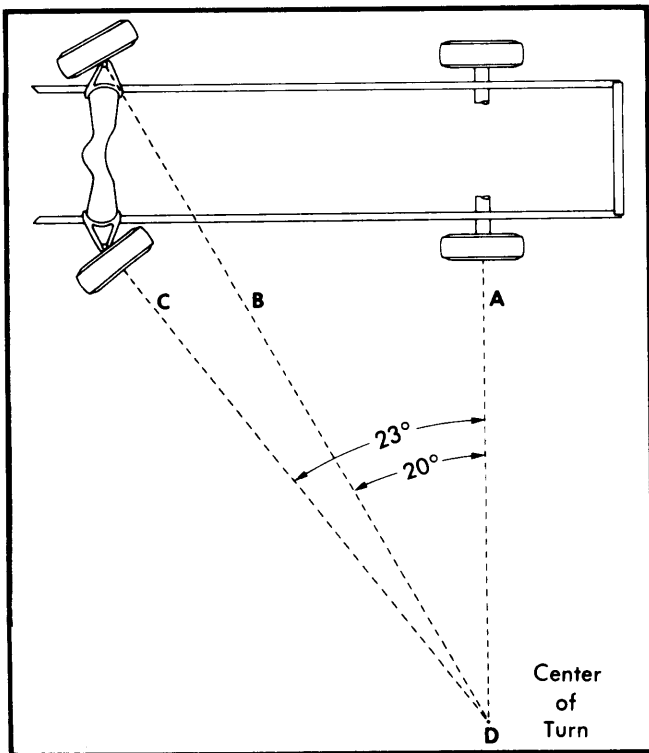

Fig. 6 Wheel Toe-Out on Turns
1) Toe-out is a check for bent or damaged parts, and not a service adjustment. With caster, camber, and toe-in properly adjusted, check toe-out with weight of car on wheels. See Fig. 6.